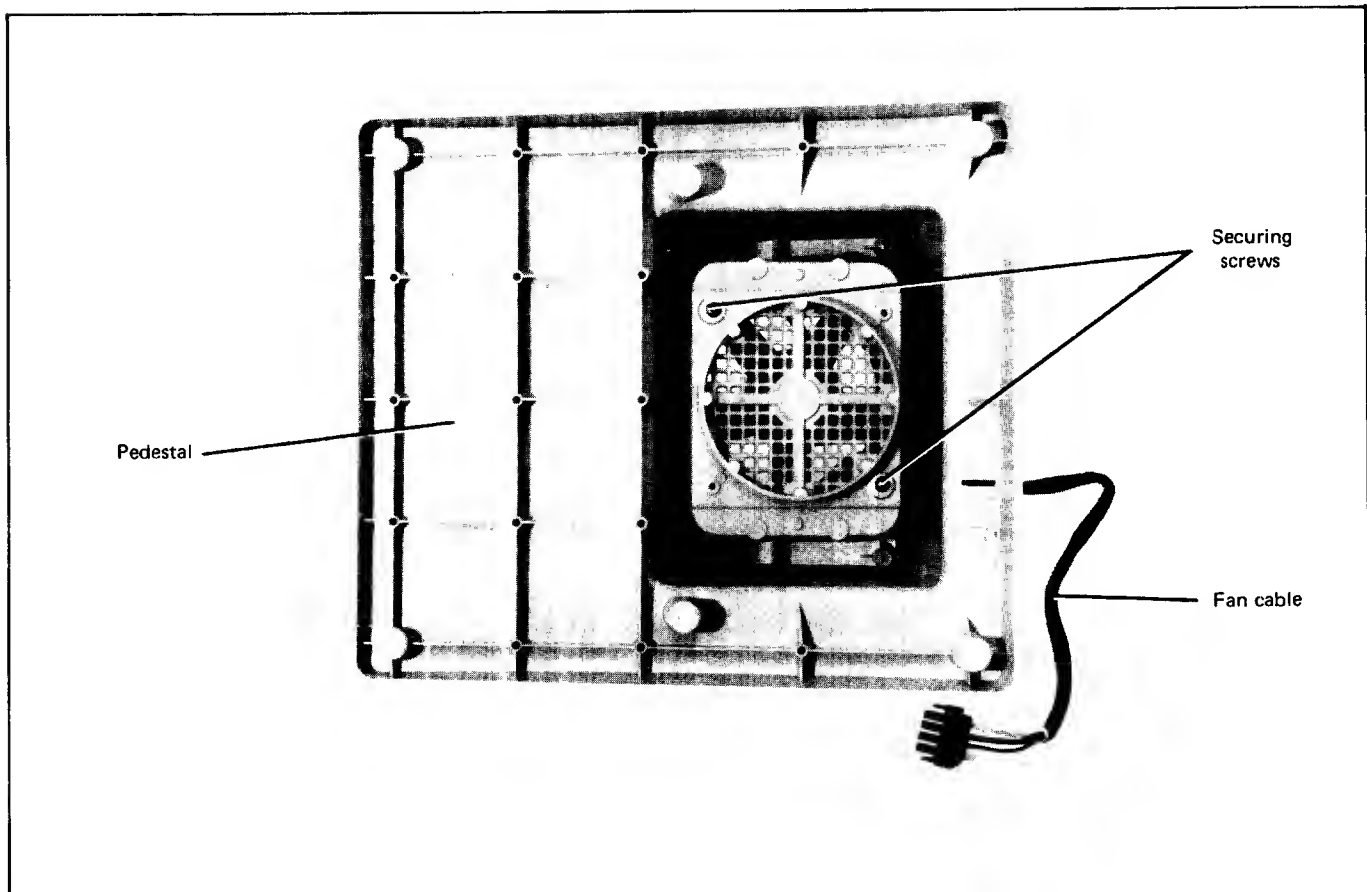

Figure 7-4 Fan Removal (2621B Option 050)
4. Remove the two screws and washers securing fan to pedestal cavity (figure 7-4) and remove the fan.